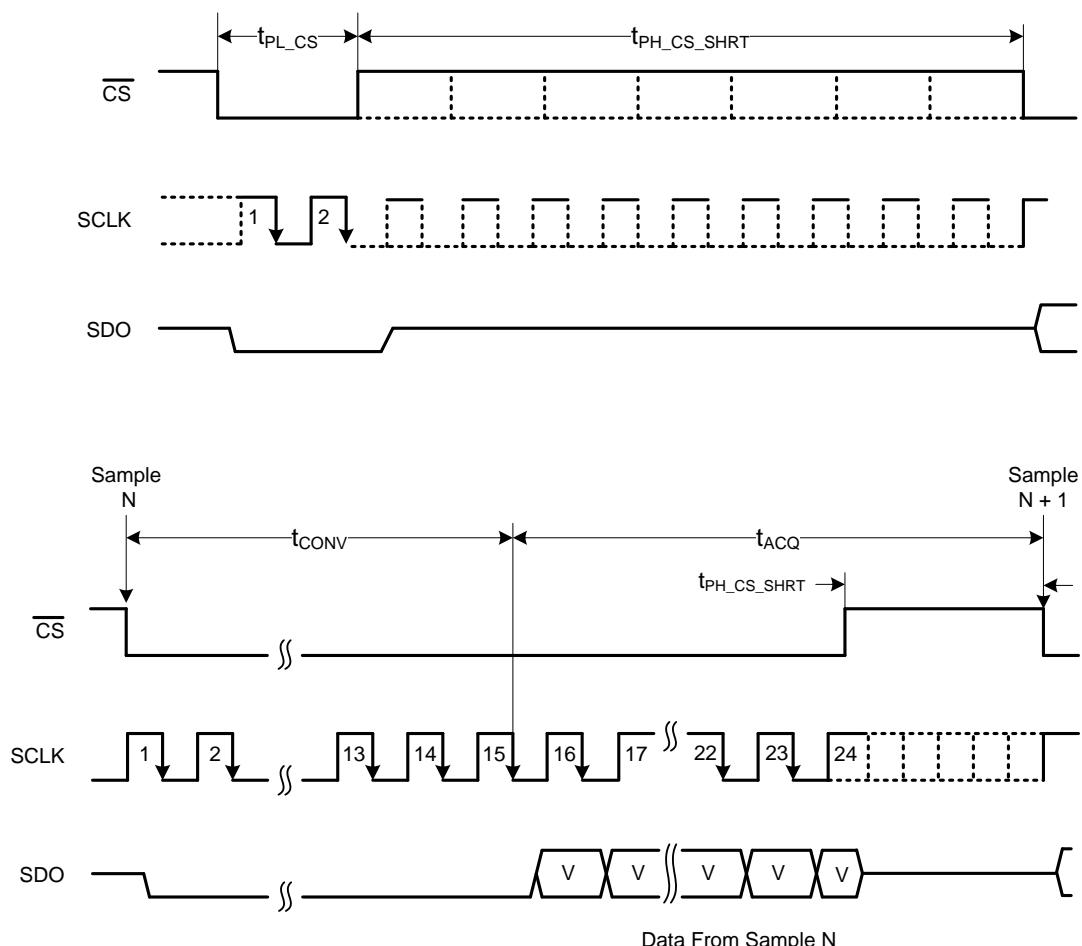

Figure 98. Frame Abort, Reconversion, or Short-Cycling Feature
As discussed in Figure 98, the minimum number of SCLK falling edges (N) that must be provided between the beginning and end of the frame depends on the serial interface mode. The SCLK falling edges (N) program the device and retrieve the conversion result. If CS is brought high before the expected number of SCLK falling edges are provided, the current frame is aborted and the device starts sampling the new analog input signal.